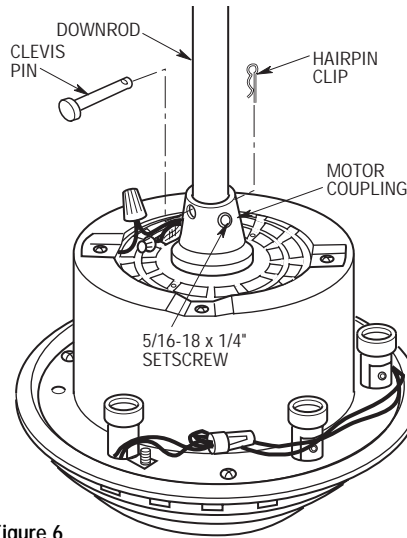

Figure 6
- 8. Separate, untwist and unink the three motor leads. Route the motor lead wires through the downrod and seat the downrod in the motor coupling (Figure 6).
- 9. Align the clevis pin holes in the downrod with the holes in the motor coupling. Install the clevis pin and secure with the hairpin clip (Figure 6). (Pin and clip are supplied in loose parts bag.) The clevis pin must go through the holes in the motor coupling and the holes in the downrod. Push the straight leg of the hairpin clip through the hole near the end of the clevis pin until the curved portion of the hairpin clip snaps around the clevis pin. The hairpin clip must be properly installed to prevent the clevis pin from working loose. Pull up on the downrod to make sure the clevis pin is properly installed.
- 10. Install the 5/16-18 x 1/4" setscrew (supplied) in the motor coupling (Figure 6). While pulling up on the downrod, tighten the setscrew using the 4 hex wrench (supplied).
It is critical that the clevis pin in the motor coupling is properly installed and the setscrew securely tightened. Failure to verify that the pin and setscrew are properly installed (as shown in Figure 6) could result in the fan falling.